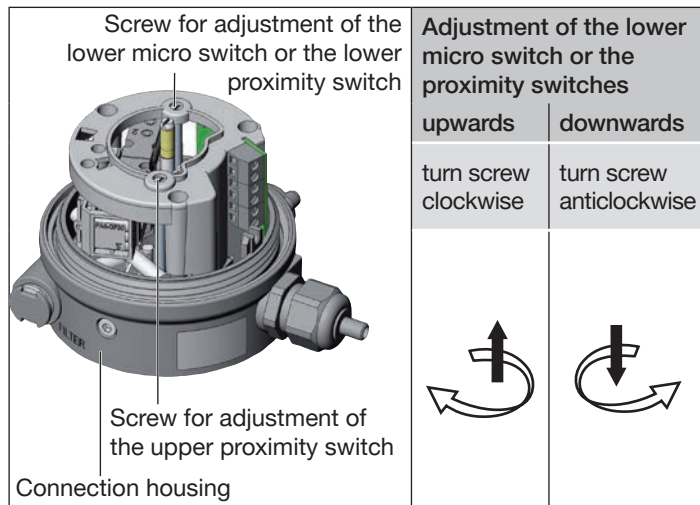

Fig. 21: Adjustment of the micro switch and the proximity switches
- Adjust the lower micro switch or the proximity switches via the adjusting screw(s) (see “Fig. 21”).